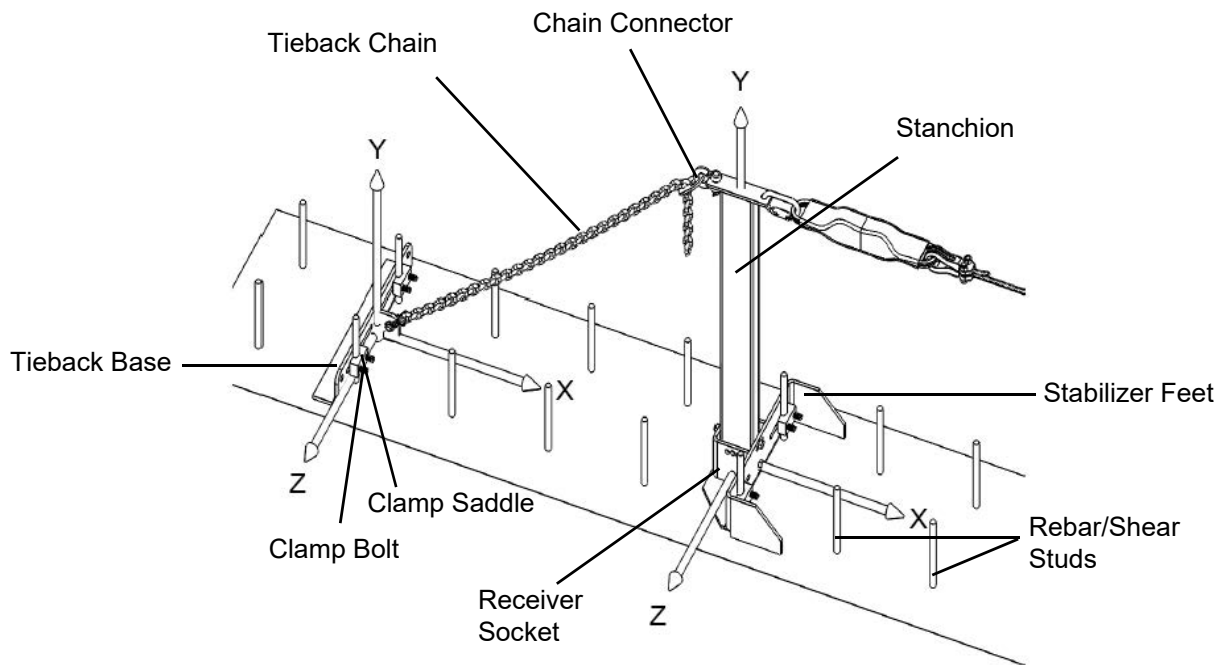
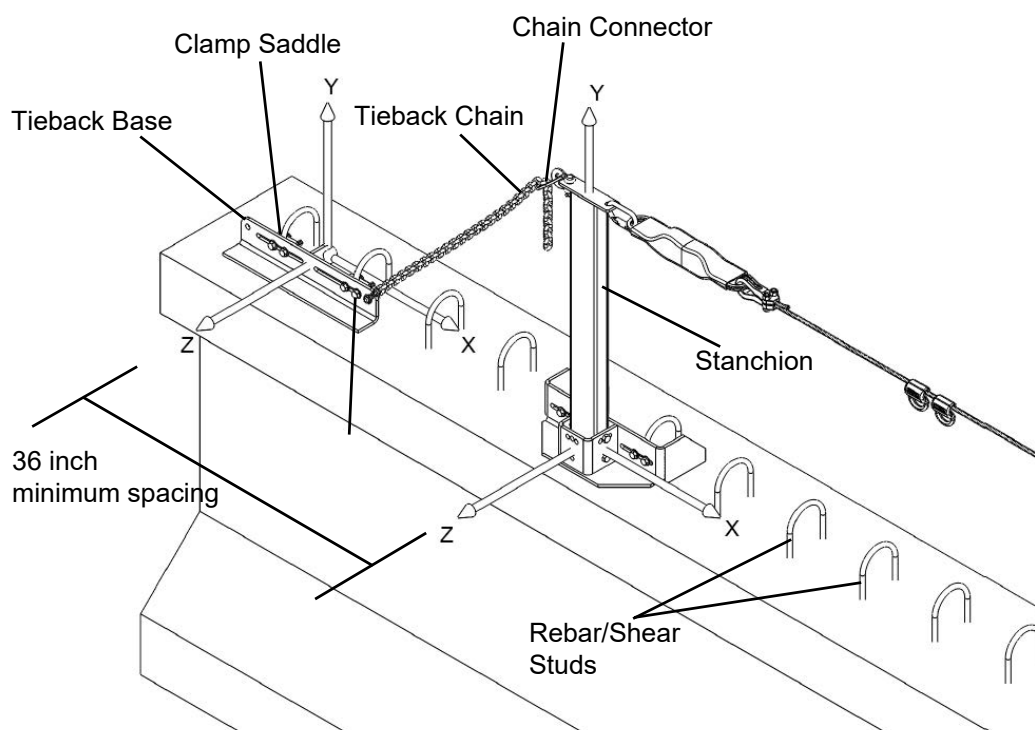

Figure 7
Figure 8
The concrete stanchion base can be installed to rebar or shear studs that extend from the concrete or steel beam. The concrete stanchion base can be installed in a configuration that is perpendicular or parallel to the length of the HLL. For the perpendicular configuration, make sure that the receiver socket on the base for the stanchion post is nearest the tie-back bracket and the stabilizer feet are farthest from the tie-back bracket (see Figure 7). For the parallel configuration, the orientation of the receiver socket and tie-back bracket is not important.
The MSA standard concrete stanchion can be attached across the length of the HLL on a beam with a minimum width of 20 in. (51 cm). To attach the concrete stanchion to rebar or shear studs, the diameter of the rebar or shear studs must be 1/2 to 1 in. (1.3 to 2.5 cm). Spacing for the rebar or shear studs along the length of the HLL must be 4 in. (10.2 cm) or more. Spacing between the centers of the rebar or shear studs perpendicular to the length of the HLL must be 8 to 12 in. (20.3 to 30.5 cm). Rebar must extend a minimum of 4 in. (10.2 cm) above the mounting surface. Shear studs must extend a minimum of 5 in. (12.7 cm) above the mounting surface to the bottom of the stud head, see Figure 7.
The MSA standard concrete stanchion can be attached along the length of the HLL on concrete with a minimum width of 12 in. (30.5 cm). To attach the concrete stanchion to rebar or shear studs, the diameter of the rebar or shear studs must be 1/2 to 1 in. (1.3 to 2.5 cm). Spacing between the centers of the rebar or shear studs along the length of the HLL must be 4 to 12 in. (10.2 to 30.5 cm). Rebar must extend a minimum of 4 in. (10.2 cm) above the mounting surface. Shear studs must extend a minimum of 5 in. (12.7 cm) above the mounting surface to the bottom of the stud head. The rebar or shear studs must be a minimum of 5 in. (12.7 cm) from the edge of the beam. See Figure 8.
For the perpendicular configuration, make sure that the anchor plate with the hole points toward the stanchion base, see Figure 7. For the parallel configuration, the orientation of the tie-back bracket is not important.
- (1) Put the tie-back bracket in position on the beam so the location where the tie-back chain attaches to the tie-back bracket is a minimum of 36 in. (91 cm) away from where the tie-back chain attaches to the top of the stanchion. This 36 in. (91 cm) dimension is a horizontal dimension. See Figures 7 and 8.
- (2) Make sure that the tie-back bracket is aligned with the stanchion base.
- (3) Put the clamp saddles around the rebar/shear studs.
- (4) Put washer on each 1/2 in. diameter bolt, then insert through a slotted hole in the tie-back bracket and then thread into the clamp saddle.
- (5) Move the clamp saddles in the slotted holes to make sure that the rebar/shear studs are in the center indentation of the clamp saddles.
- (6) Tighten the bolts equally so the clamp saddles are evenly aligned with the tie-back bracket.
- (7) Torque the bolts to 60 ft-lbf (80 Nm).
- (8) Make sure that the tie-back bracket is flush with the top of the beam.
The stanchion post must be oriented in the direction of the HLL, see Figures 7 and 8. The plate at the top of the post has one hole where the HLL will be attached and a second hole on the opposite side where the chain connector will be attached. Both of these holes must be aligned with the HLL (wide direction of the post parallel with the HLL). In addition, the post can be adjusted to the right, left, or vertical depending on the requirements of the application.
For tie-back brackets installed perpendicular to the length of the HLL, the tie-back chain connects to the perpendicular plate off the face of the bracket, see Figure 7. For tie-back brackets installed parallel to the length of the HLL, the tie-back chain is supported from the hole in the end of the bracket, see Figure 8.